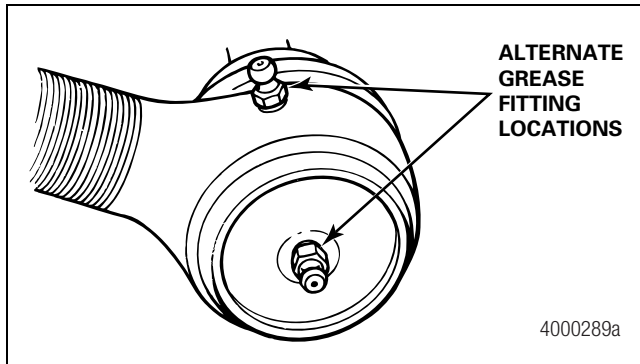

Figure 3.20
7. On tie rods designed with grease fittings, check that the grease fittings are installed. Replace a grease fitting if it is damaged or does not allow grease to flow through the fitting properly. Figure 3.20.